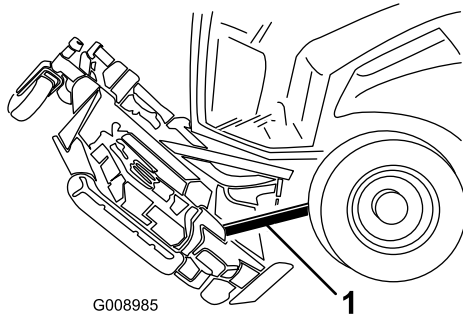

Figure 132
6. Wedge a block of wood between the rear of the deck and the machine (Figure 132).